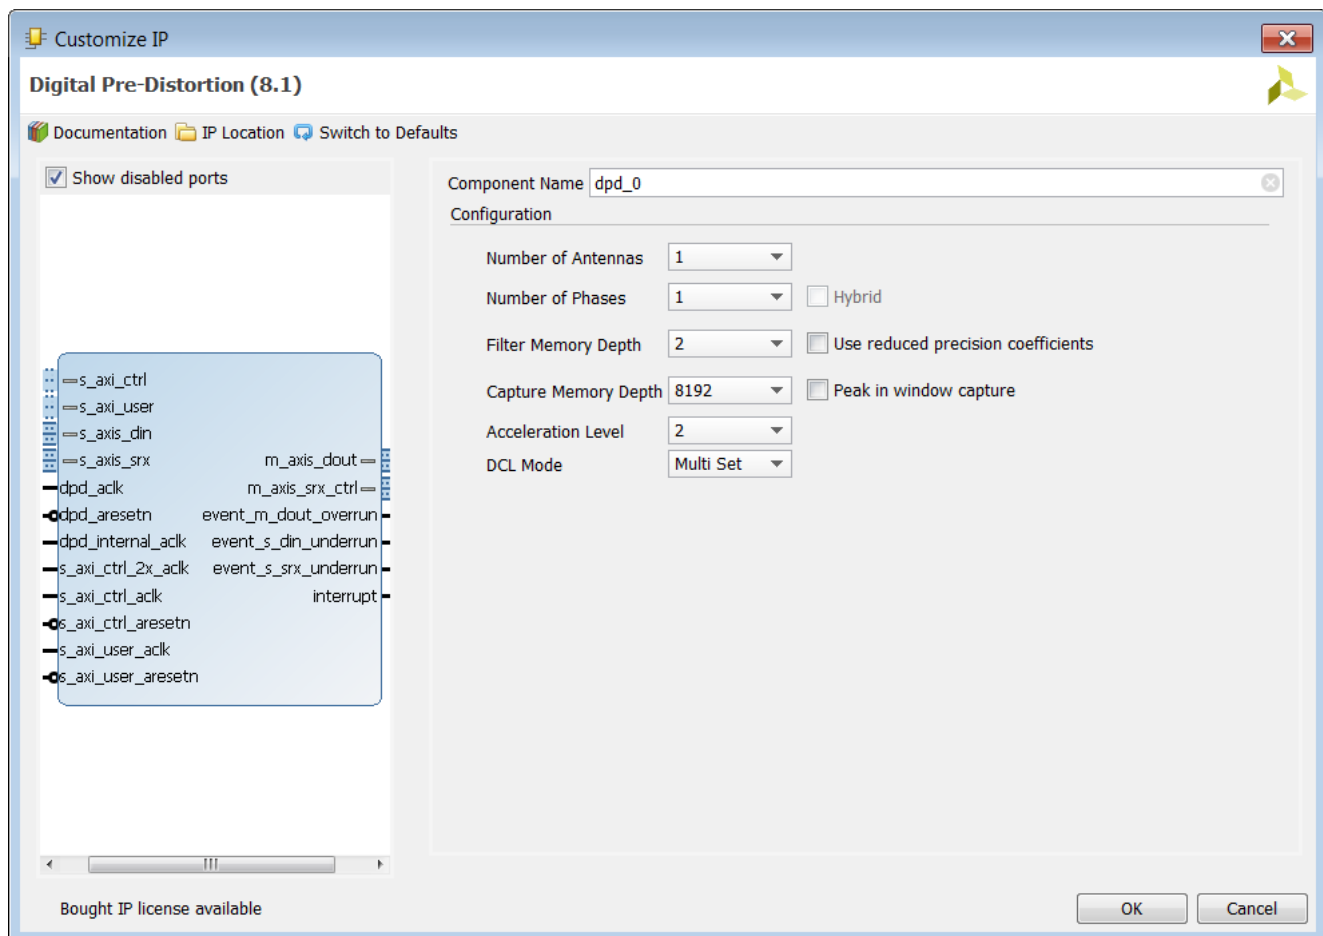

Figure 4-1: Customize IP
6. A new window, **Customize IP**, shows various customizable parameters of the IP for DPD v8.1. These parameters are explained in the following sections. See Figure 4-1. A similar customization window is displayed, if the IP Core is created in an RTL design.